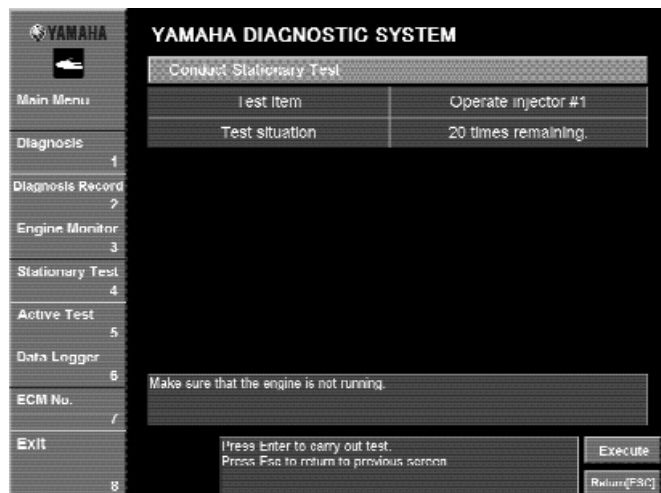

Fig. 49
3. Click the **Execute** button or press the Enter key on your keyboard (Fig. 49).